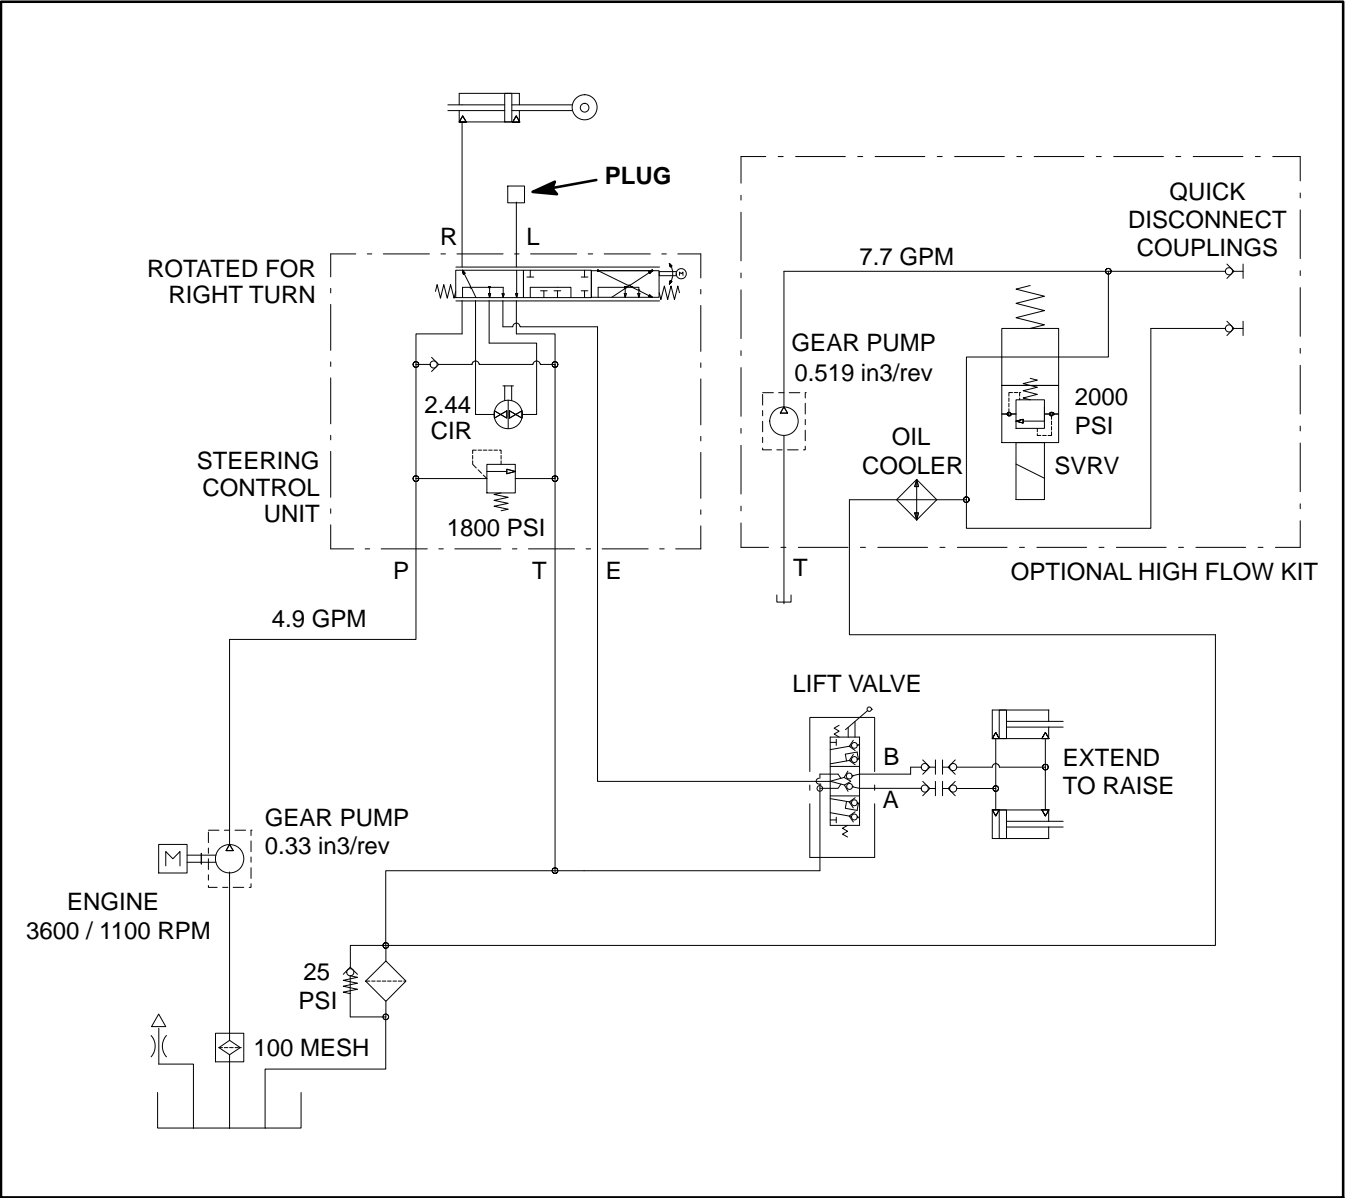

Figure 19
E. Clean and remove hydraulic hose from the fitting on the rod end of the steering cylinder. Plug the end of the disconnected hose (Fig. 19).